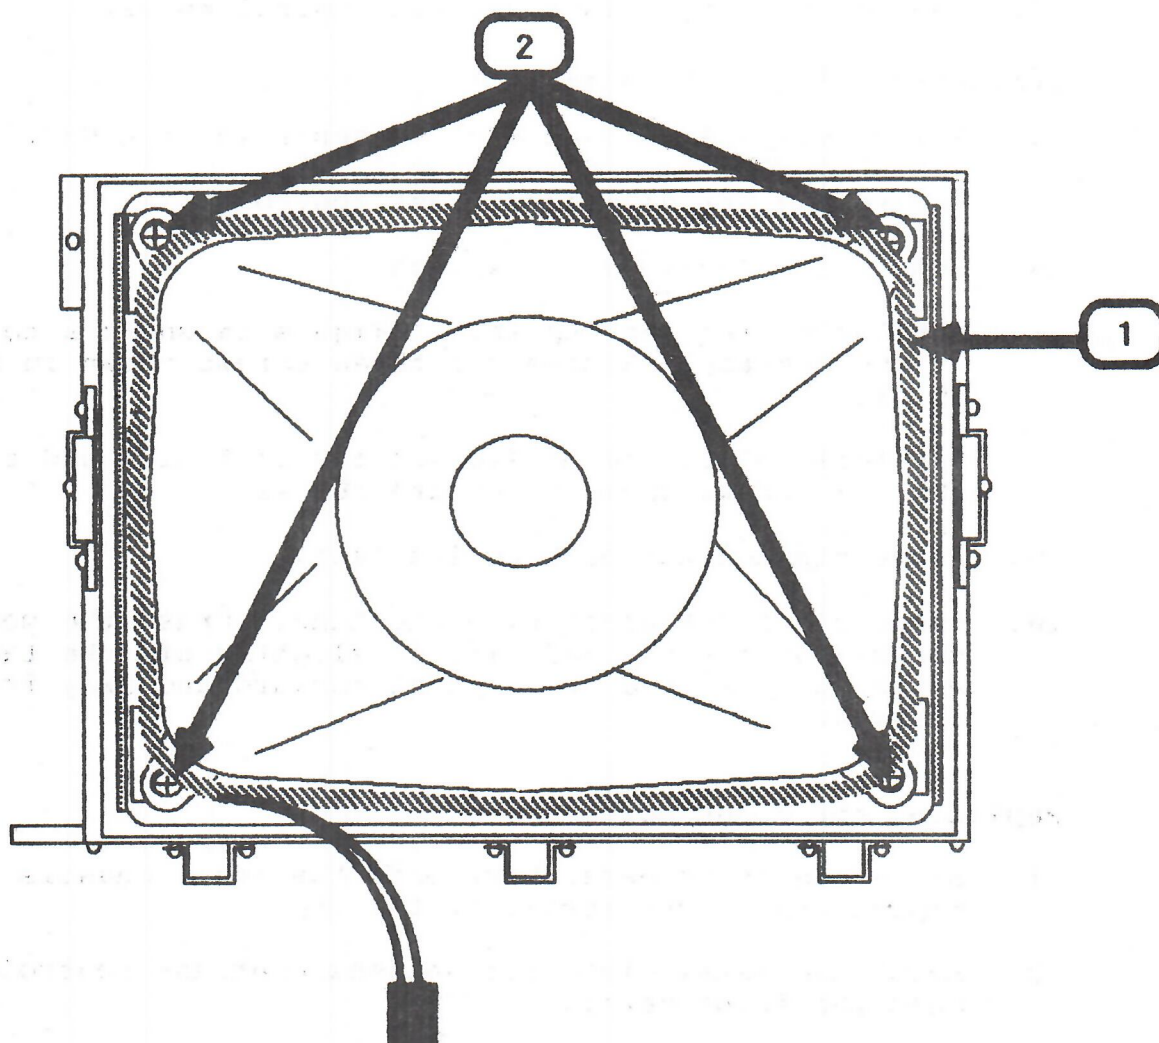

FIGURE 17
10. Locate the degaussing coil (Figure 17, #1). It is braced to the CRT by plastic coated holding tabs at each corner.
13. Use a long, Phillips screwdriver or a 5/16 nut driver to remove the four CRT mounting screws (Figure 17, #2) and holding tabs. Remove the large washers.